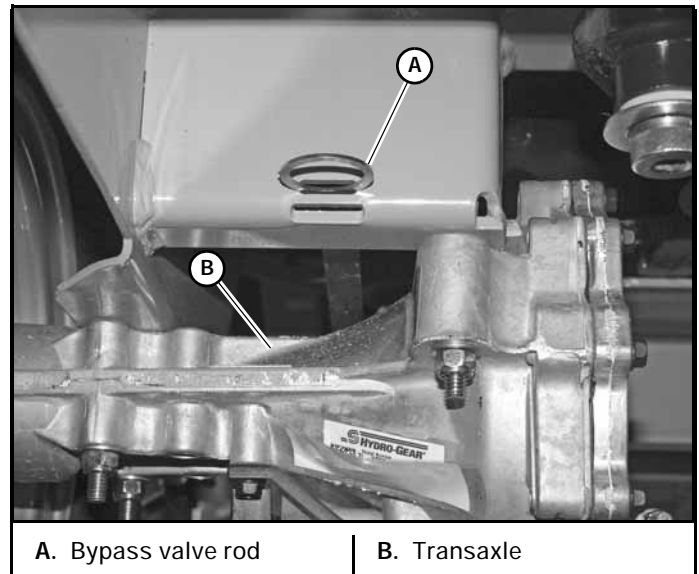

Figure 4-16
6. With the bypass valve open and the engine running, slowly move the steering control lever in both forward and reverse directions (5 or 6 times). Figure 4-16